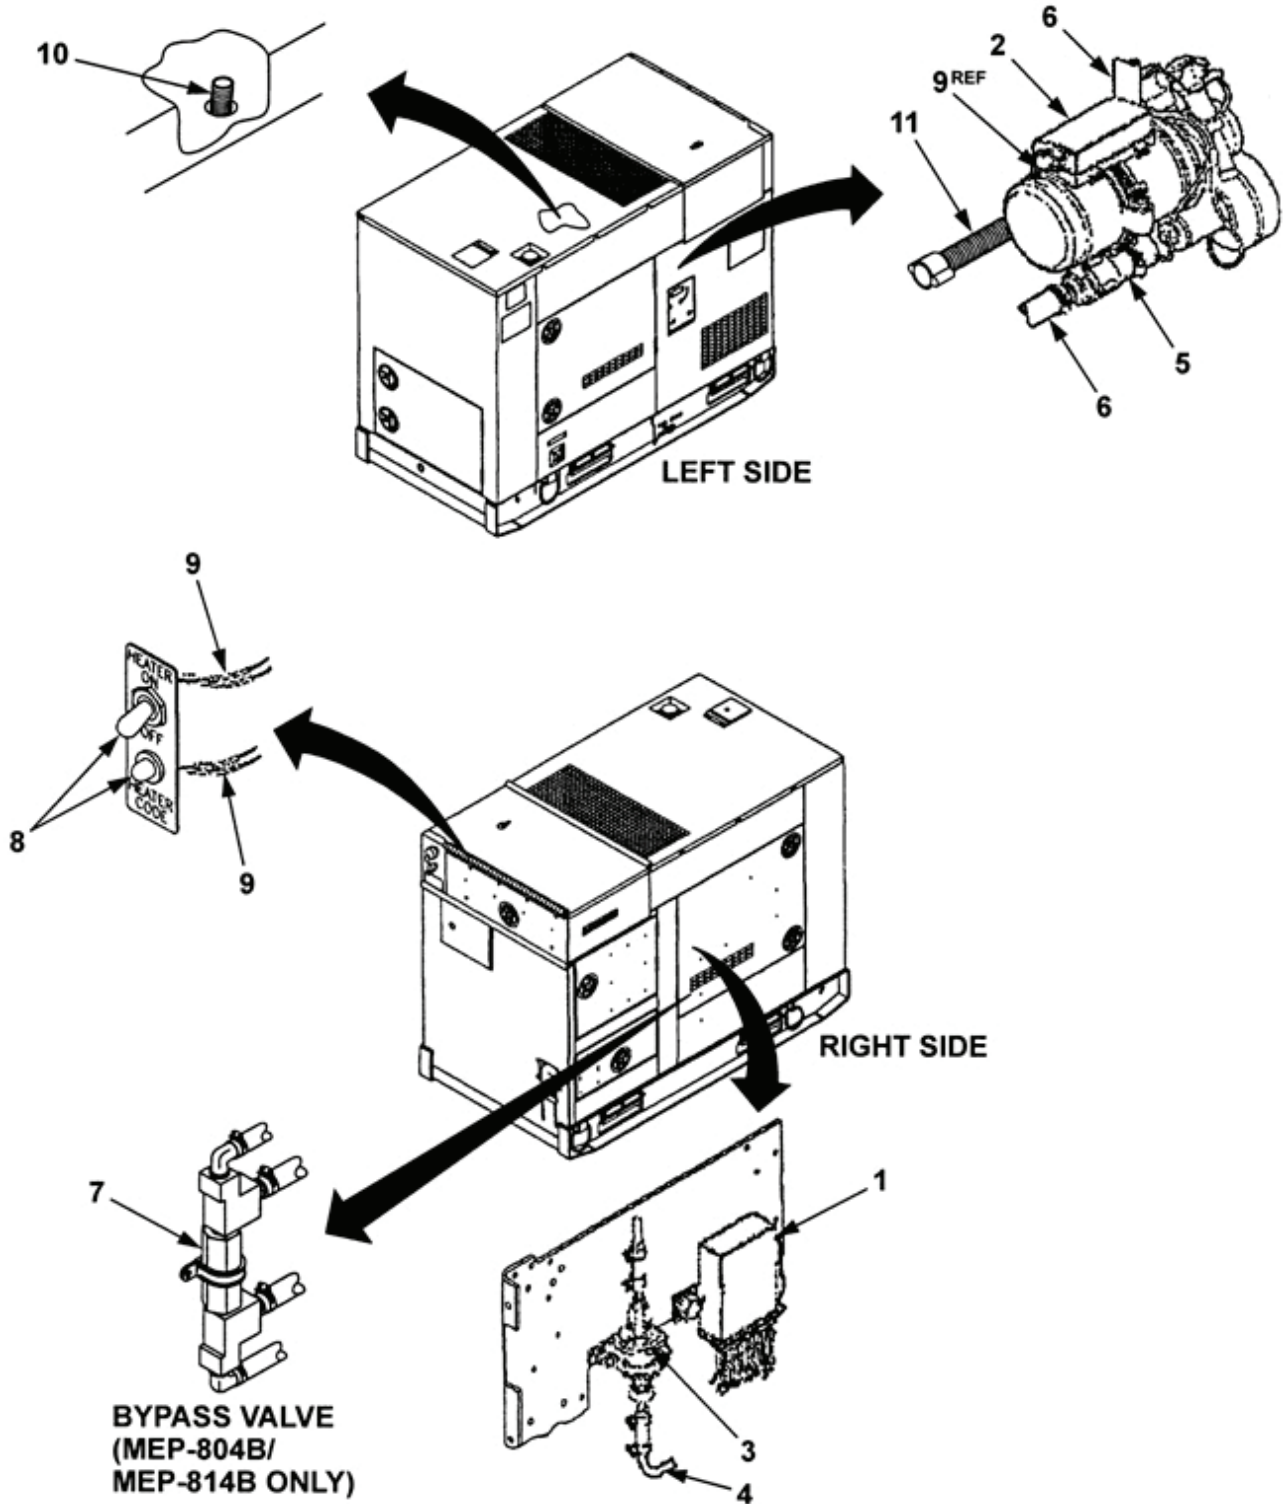

Figure 6-1. Location of Major Components.
- c. Location and Description of Major Components. Figure 6-1 illustrates the major components of the kit and shows their locations on the 15kW Tactical Quiet Generator Set. (Refer to Table 6-1 for item names).
- b. Heater Indicator Light. A light at the heater ON-OFF switch (item 8, Figure 6-1) lights when the heater is operating. The light also serves as a troubleshooting code light (see Section X, Troubleshooting Procedures).